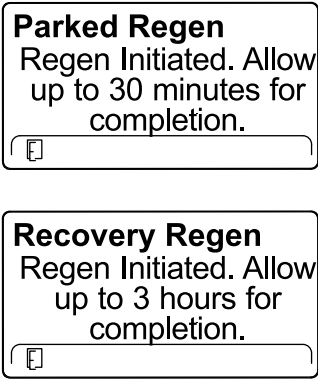

Figure 78
6. The InfoCenter displays the time to complete message (Figure 78).